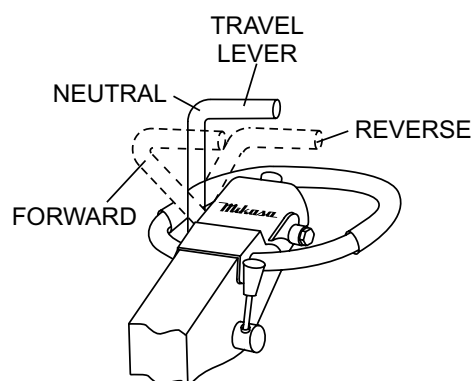

Figure 17. Travel Lever
- To make the compactor move in the forward direction push the travel lever (Figure 17) forward.
4. To make the compactor move in the reverse direction pull the travel lever (Figure 17) backwards.